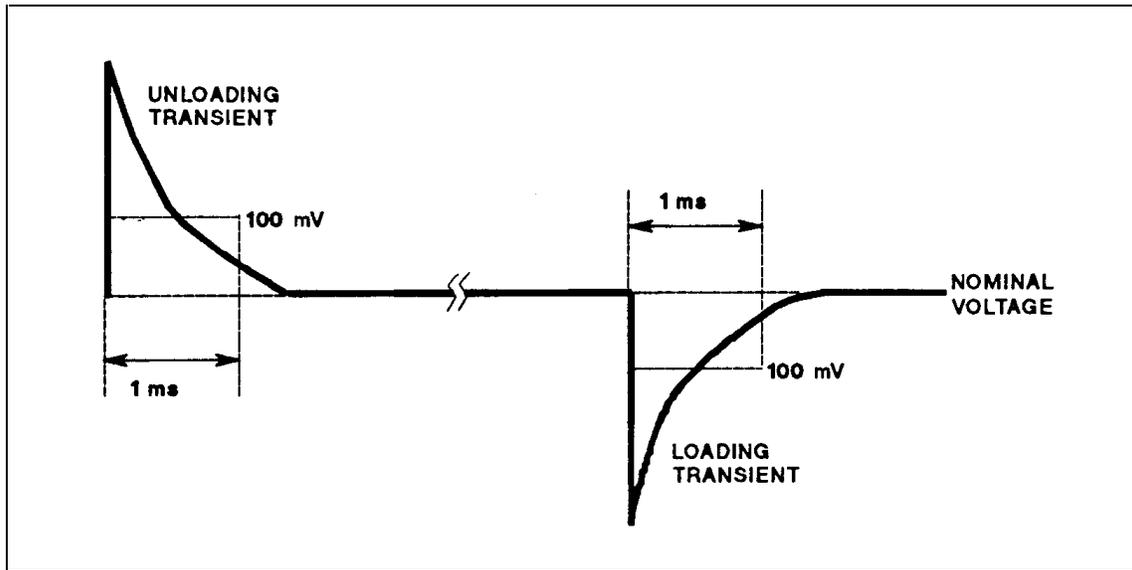

Figure 2-2. Transient Response Waveform
6. Adjust the oscilloscope for a waveform similar to that in Figure 2-2.